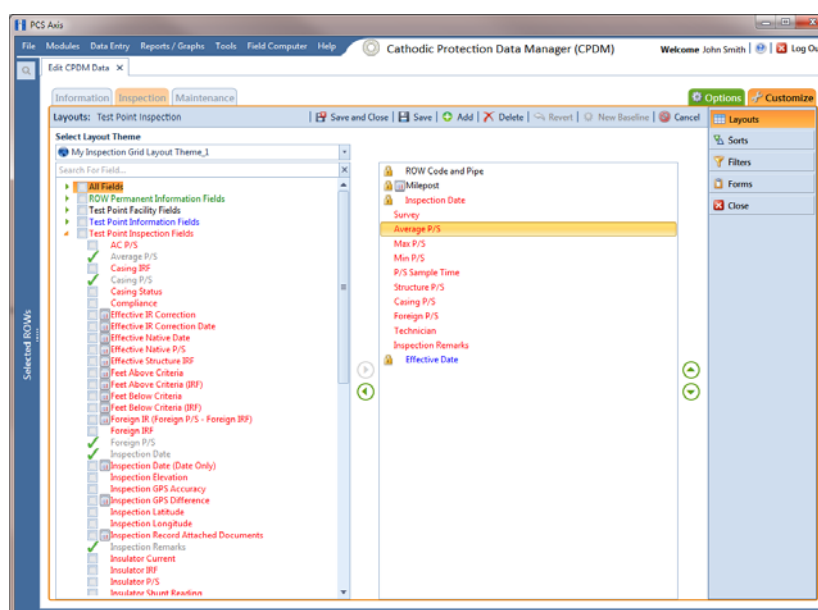

Figure 8-16. Layouts
- 4 Double-click  **Test Point Inspection Fields** in the left pane of the window to view a list of fields available for selection (Figure 8-16, page 336).